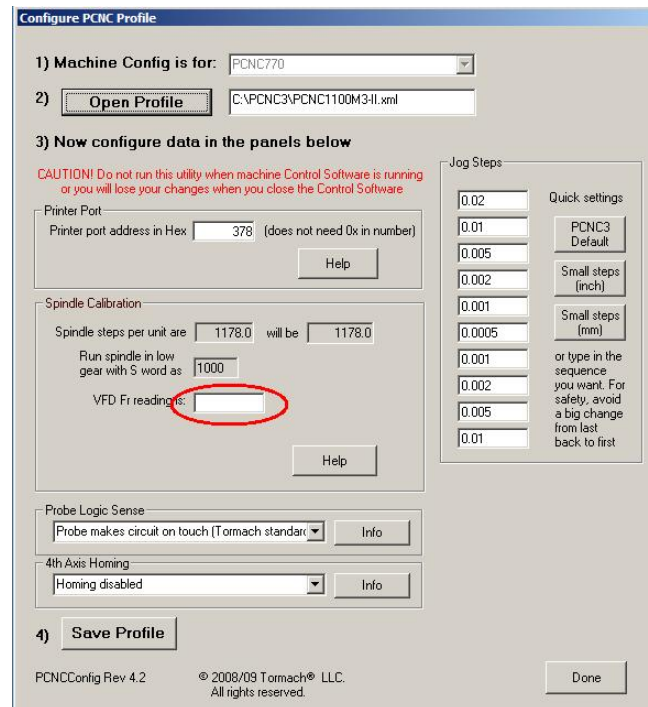

Figure 9.11 – The measured frequency
6. Next, under the “Speed Calibration” heading enter the frequency you recorded earlier (figure 9.11). The software will display a new "Spindle steps per unit" value.